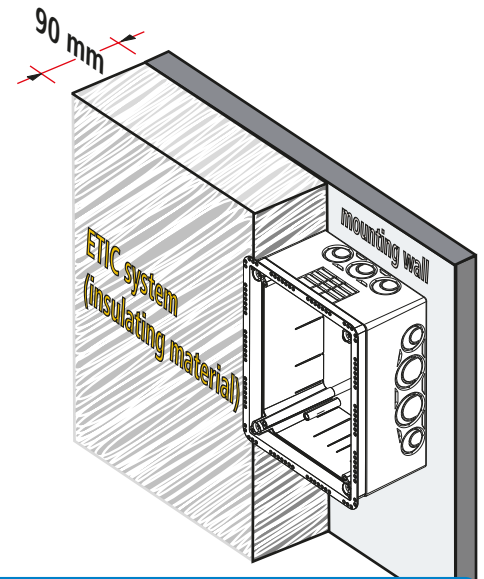

Fig. 1a
The test joint box (also in combination with a spacer (Part No. 476 053 or a set (Part No. 476 055) ensures mounting heights (flush with the insulating material) of 90 to 320 mm (see Fig. 1a, 1b, 1c).
- ➔ Wall mounting of the test joint box (see Fig. 1a and 1b)